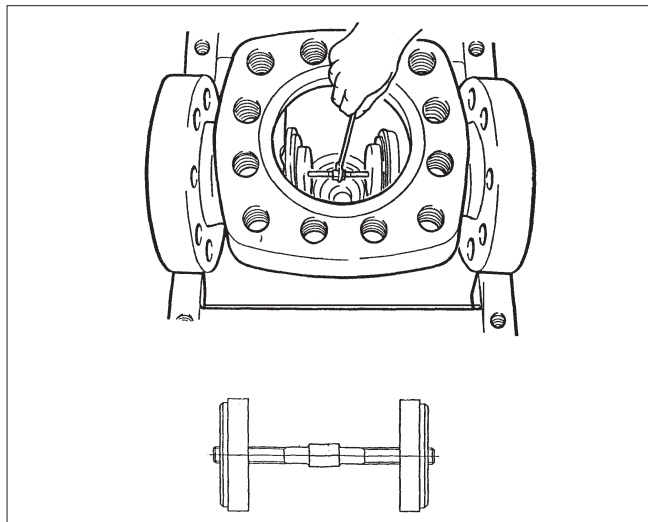

Fig. 18 Using extractor tool
- Place the locking tools in position and tighten as shown in Fig. 18. Remove the extractor tool.